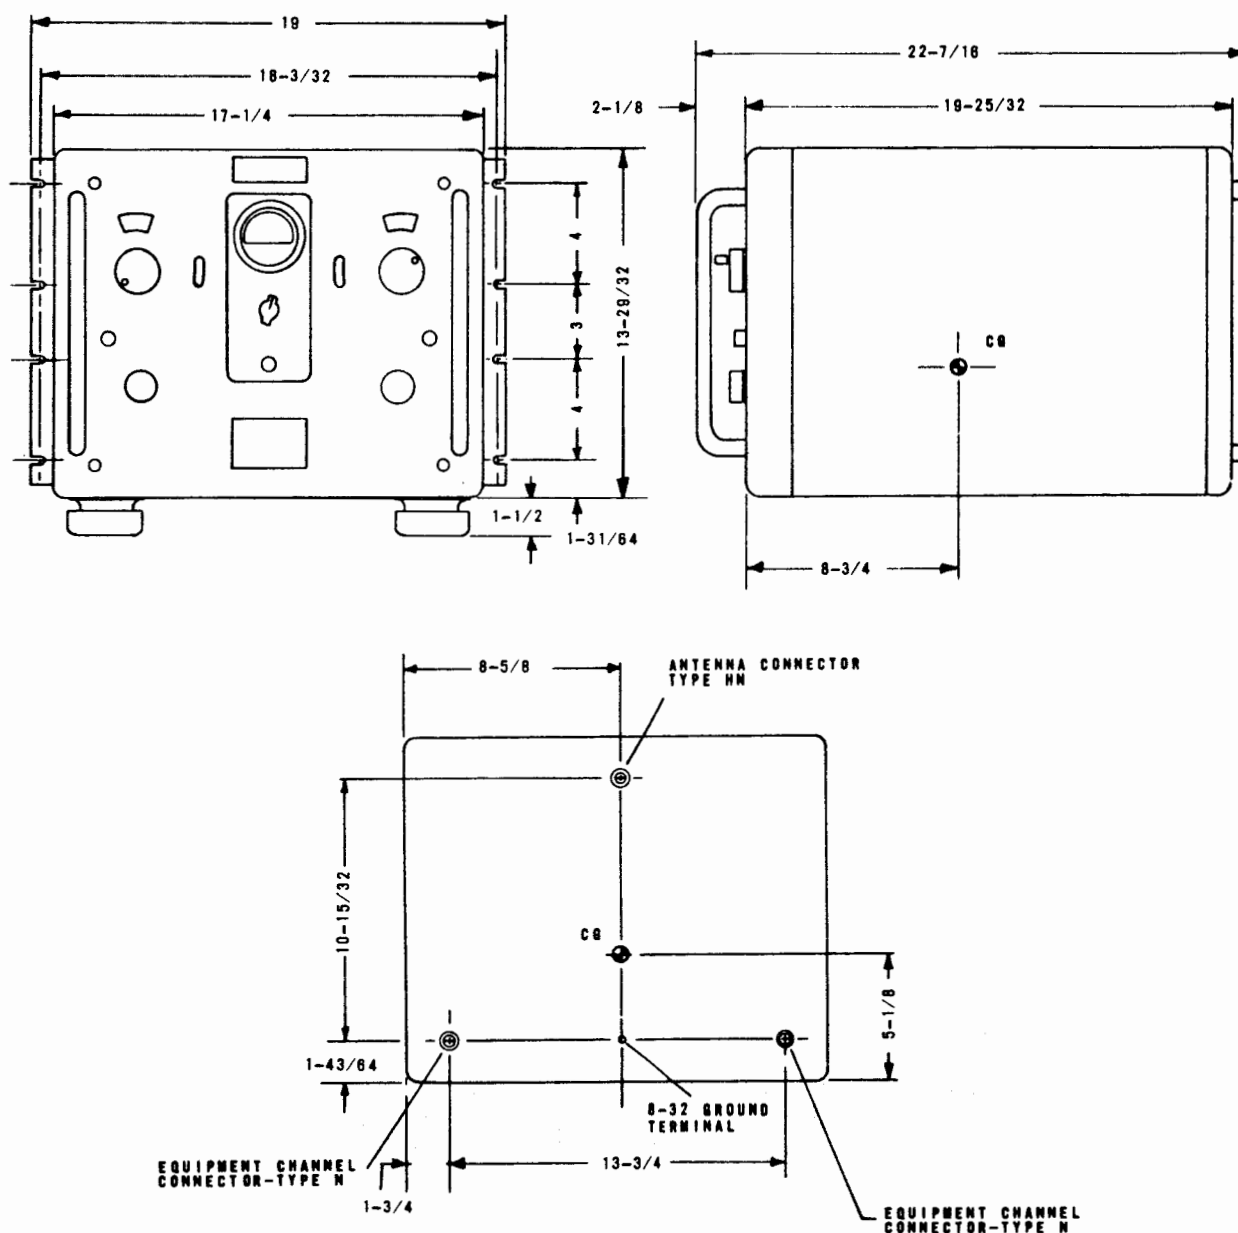

Figure 2-7 Antenna Coupler CU-692/U Physical Configuration
b. PHYSICAL CONFIGURATION. - See Figure 2-7.